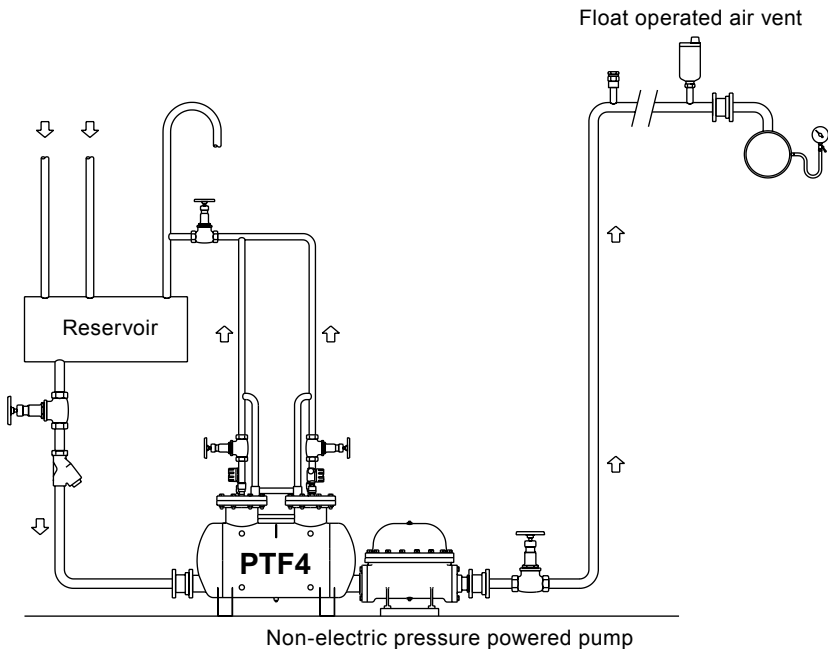

Fig. 15 Pressure-powered pump discharging to a long delivery line
4. a) Install a vacuum breaker at the top of the lift (at a high point in the return line). For pressurised return systems an air eliminator may be required downstream of the vacuum breaker - See Figure 15, page 27.